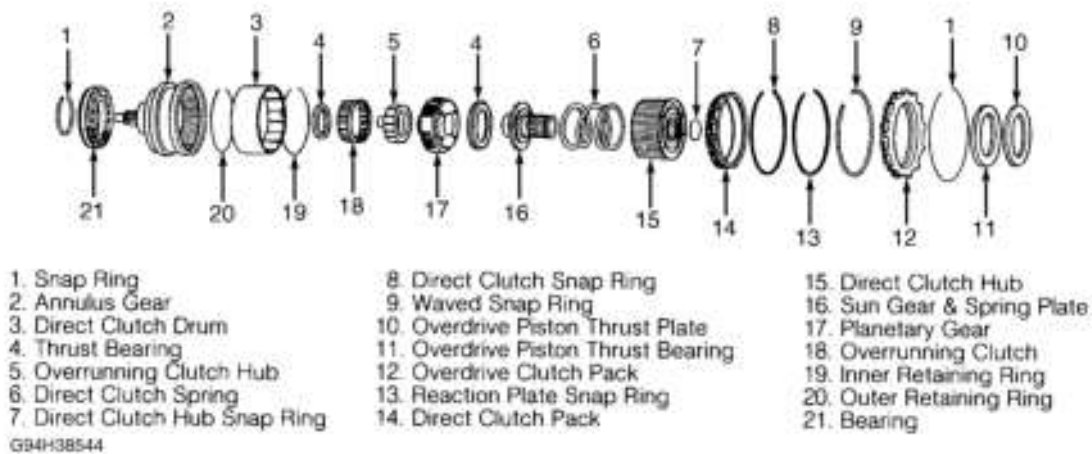

Fig. 41: Exploded View Of Overdrive Unit
1. Remove speed sensor and "O" ring from overdrive unit case. Remove snap ring and overdrive clutch pack components from overdrive unit case. See **Fig. 41** . Note direction of clutch discs and clutch
4. Remove direct clutch pack components from direct clutch drum, noting location of components for reassembly reference. Remove direct clutch hub and direct clutch spring. Remove sun gear and spring plate. Remove thrust bearing and planetary gear. See **Fig. 41** .
6. Remove thrust bearing from overrunning clutch hub. Remove overrunning clutch from overrunning clutch hub. See **Fig. 41** . Scribe alignment marks on outer surface of direct clutch drum and annulus gear for reassembly reference.
7. Remove inner and outer retaining rings from direct clutch drum. See **Fig. 41** . Remove direct clutch drum from annulus gear. Scribe alignment marks on annulus gear and output shaft for reassembly reference. Remove snap ring for annulus gear. Using soft-faced hammer, tap annulus gear from output shaft.